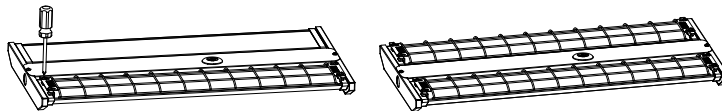

Figure 8
Step 1. Clamp the iron pieces on both ends of the wire guard into the plug of the light-emitting modules. Then push them to the end and tighten them with screws. (Figure 8)